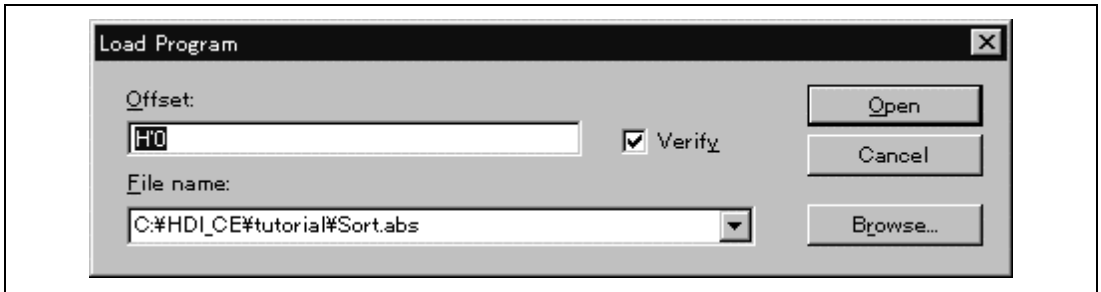

Figure 3.4 [Load Object File] Dialog Box
- Select [Load Program...] from the [File] menu. The [Load Program] dialog box is displayed. Enter the [Offset] edit box and [File name] list box as shown in figure 3.4 and click the [Open] button.